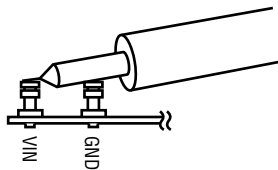

Figure 2. Measuring Input or Output Ripple
NOTE: When measuring the input or output voltage ripple, care must be taken to avoid a long ground lead on the oscilloscope probe. Measure the input or output voltage ripple by touching the probe tip directly across the V_{IN} or V_{OUT} and GND terminals. See the proper scope probe technique in figure 2.
5. Set the load current of both outputs to 3A and the input voltages to 20V, and then measure each output ripple voltage (refer to figure 2 for proper measurement technique); they should each measure less than 30mVAC. Also, observe the voltage waveform at either switch node (pins 23 & 24 for reg.1 and 13 & 14 for reg.2) of each regulator. The switching frequencies should be between 800kHz and 1.2MHz ($T = 1.25 \mu$ s and 0.833 μ s). To realize 2MHz operation, change the shunt position on header JP14. In all cases, both switch node waveforms should be rectangular in shape, and 180° out-of-phase with each other. Change the shunt position on header JP11 to set the switch waveforms in phase with respect to each other. To operate the ckt.s in Burst Mode, change the shunt in header JP8 to the Burst Mode position. When finished, insert shunts XJP1 and XJP2 to the OFF position(s) and disconnect the power.